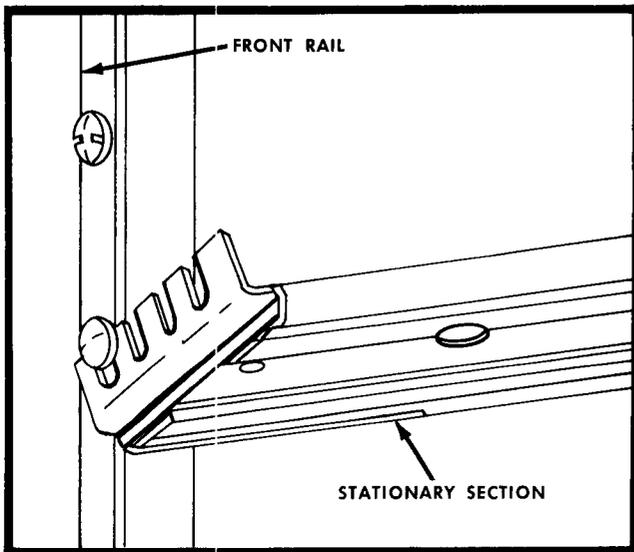
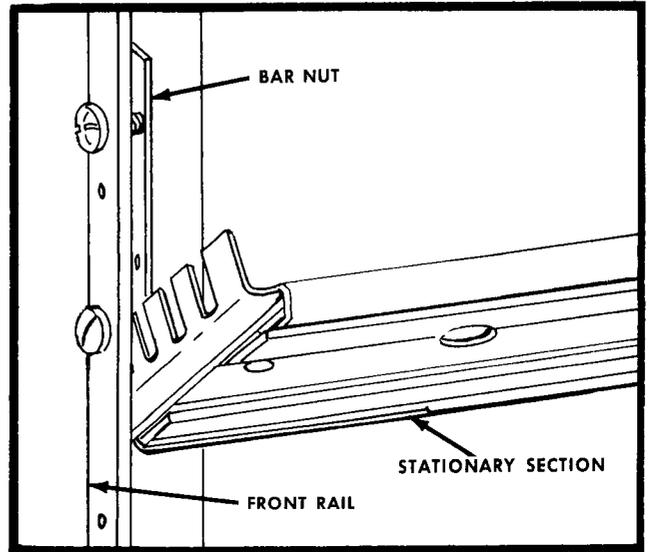

Fig. 2-2. Mounting the slideout track stationary section to the cabinet front rail using threaded holes.
Fig 2-3. Mounting the slideout track stationary section to the cabinet front rail.
1. Select the desired position of the instrument within the rack. The bottom hole on the front panel of the instrument should line up with a hole in the rail. Mark the hole and remove the instrument. If the hole is tapped for a 10-32 screw, thread one of the BHS screws several turns into the hole. Thread another BHS screw into a hole $1\frac{3}{4}$ inches above the first one. Install the front of the slideout-track stationary section as shown in Fig. 2-2. If the holes are not tapped, slip the screws through the holes (enlarge if necessary) and use the bar nut as shown in Fig. 2-3.